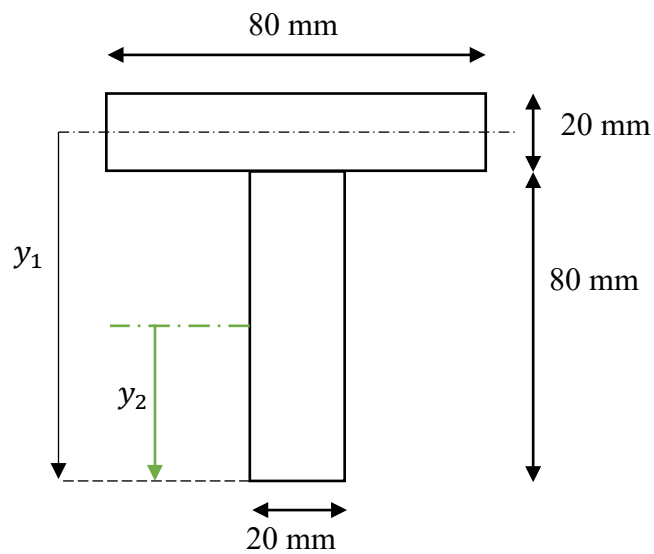

Figure 3(b) / Rajah 3(b)
- (b) **Figure 3(b)** shows the cross-sectional area of the simply supported beam. Calculate: